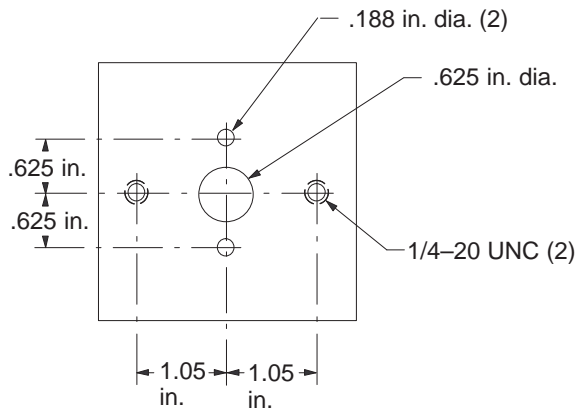

**Figure 15**
1. Remove mounting screws and nuts securing the scraper to roller mounts (Fig. 15). Remove scraper and plates.
2. Remove mounting screws securing roller mounts to rear of deck frame (Fig. 15). Remove roller mounts.
3. Remove the lower screws securing each end of roller to roller mounts (Fig. 15).